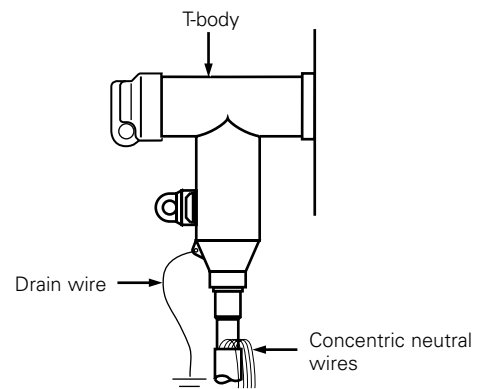

Figure 30. Illustration of the drainwire.
- Connect one concentric neutral wire to drain wire tab of the T-body or use a separate uninsulated copper wire (#14 AWG/1.6 mm). Refer to Figure 30.